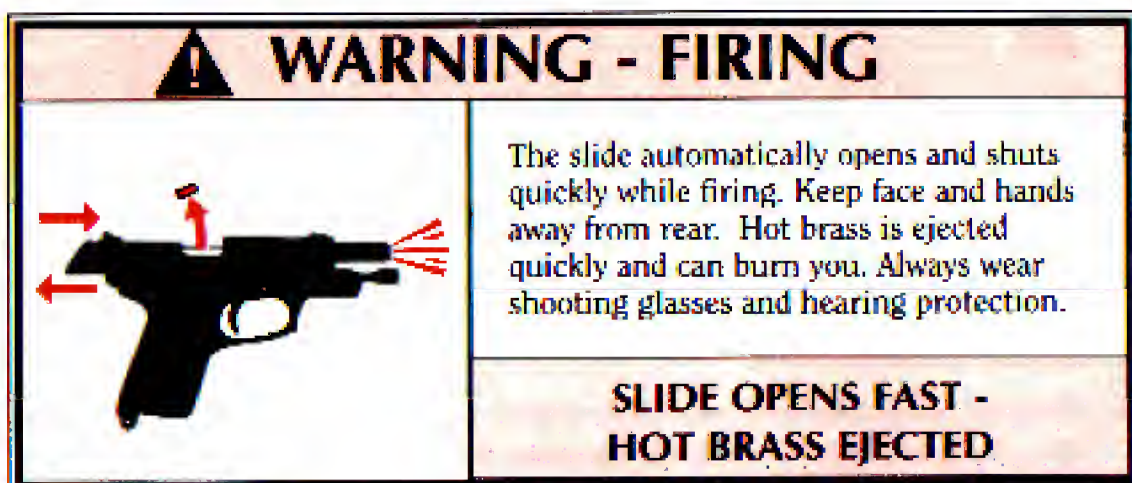

FIGURE 3
6. Hold the pistol firmly in the shooting hand but **do not touch the trigger**. Keep the pistol pointed in a safe direction and the safety "on". With the thumb and forefinger of the other hand grasp the rear of the slide and pull the slide to the rear as far as it will go (See Figure 3, p. 10 and "Slide Retraction Warning", p. 13). When released, the slide will fly forward to strip the top cartridge from the magazine and chamber it. The safety mechanism drops the hammer automatically as the slide moves forward while simultaneously blocking the firing pin.